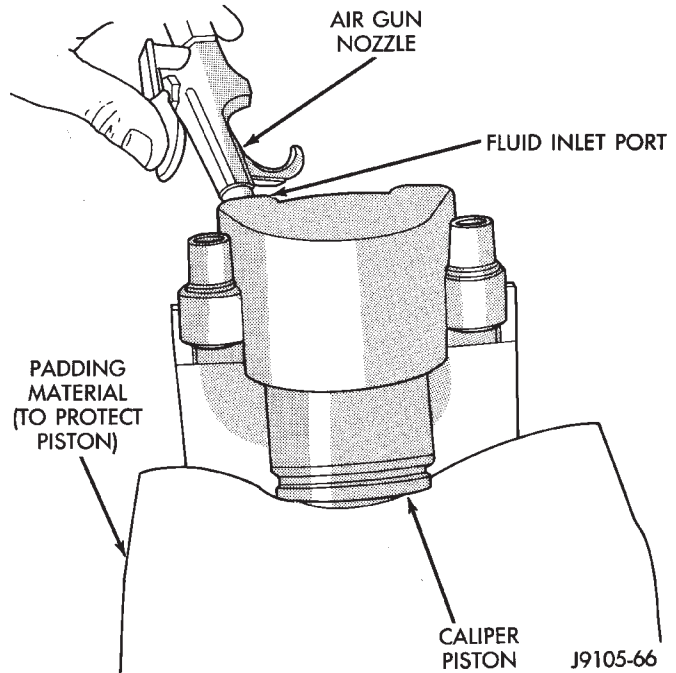

Fig. 41 Caliper Piston
- (3) Pad outboard shoe side of caliper interior with a minimum 1 inch thickness of shop towels (Fig. 41). Towels will prevent piston damage when piston comes out of the caliper bore.
- (4) Remove caliper piston with short bursts of compressed air. Apply air pressure through fluid inlet port of caliper (Fig. 41).